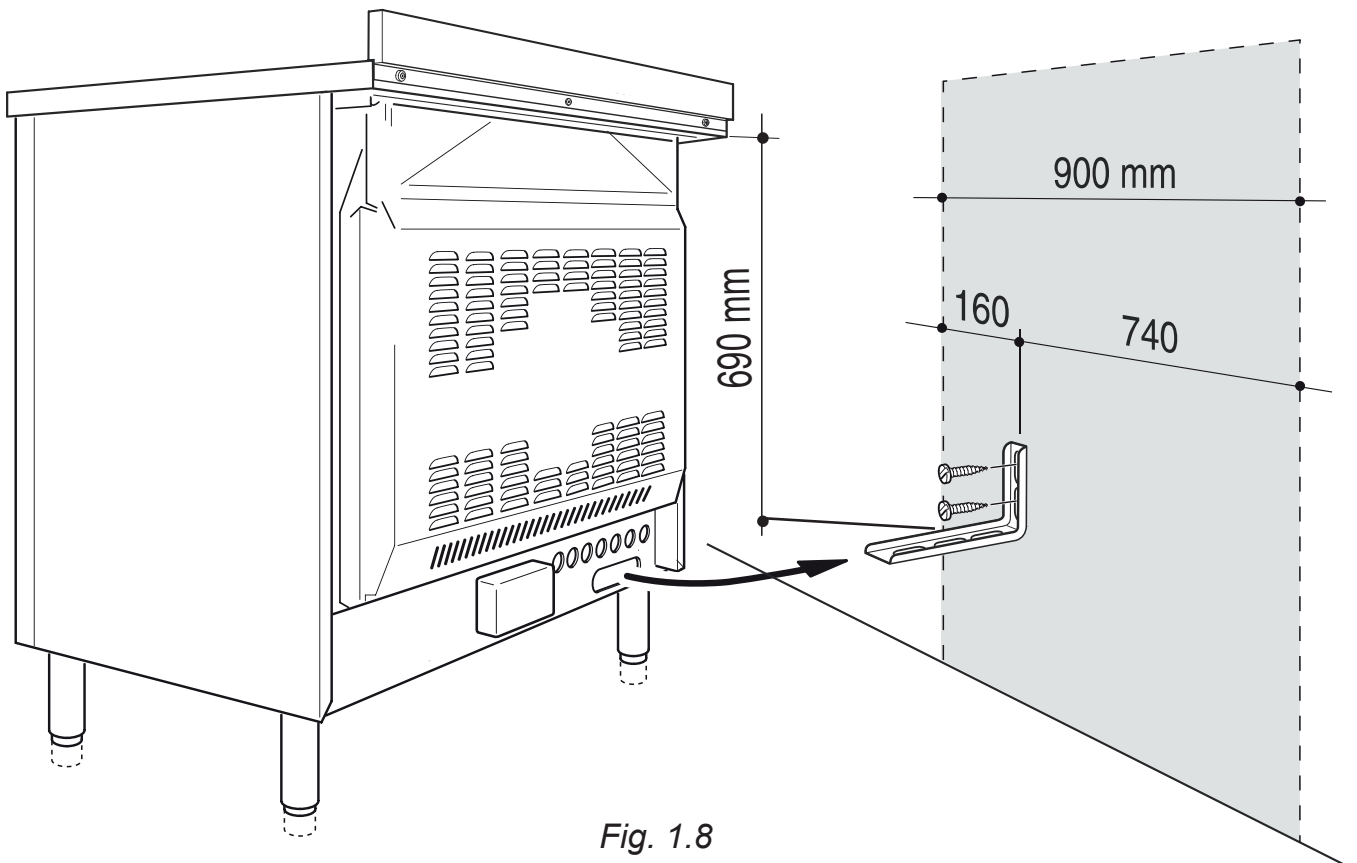

Fig. 1.8
1. After you have located where the cooker is to be positioned, mark on the wall the place where the 2 screws of the anti-tilt bracket have to be fitted. Please follow the indications given in fig. 1.8.
4. Move the cooker to the wall and adjust the height of the anti-tilt bracket so that it can engage in the slot on the cooker's back, as shown in fig. 1.8.